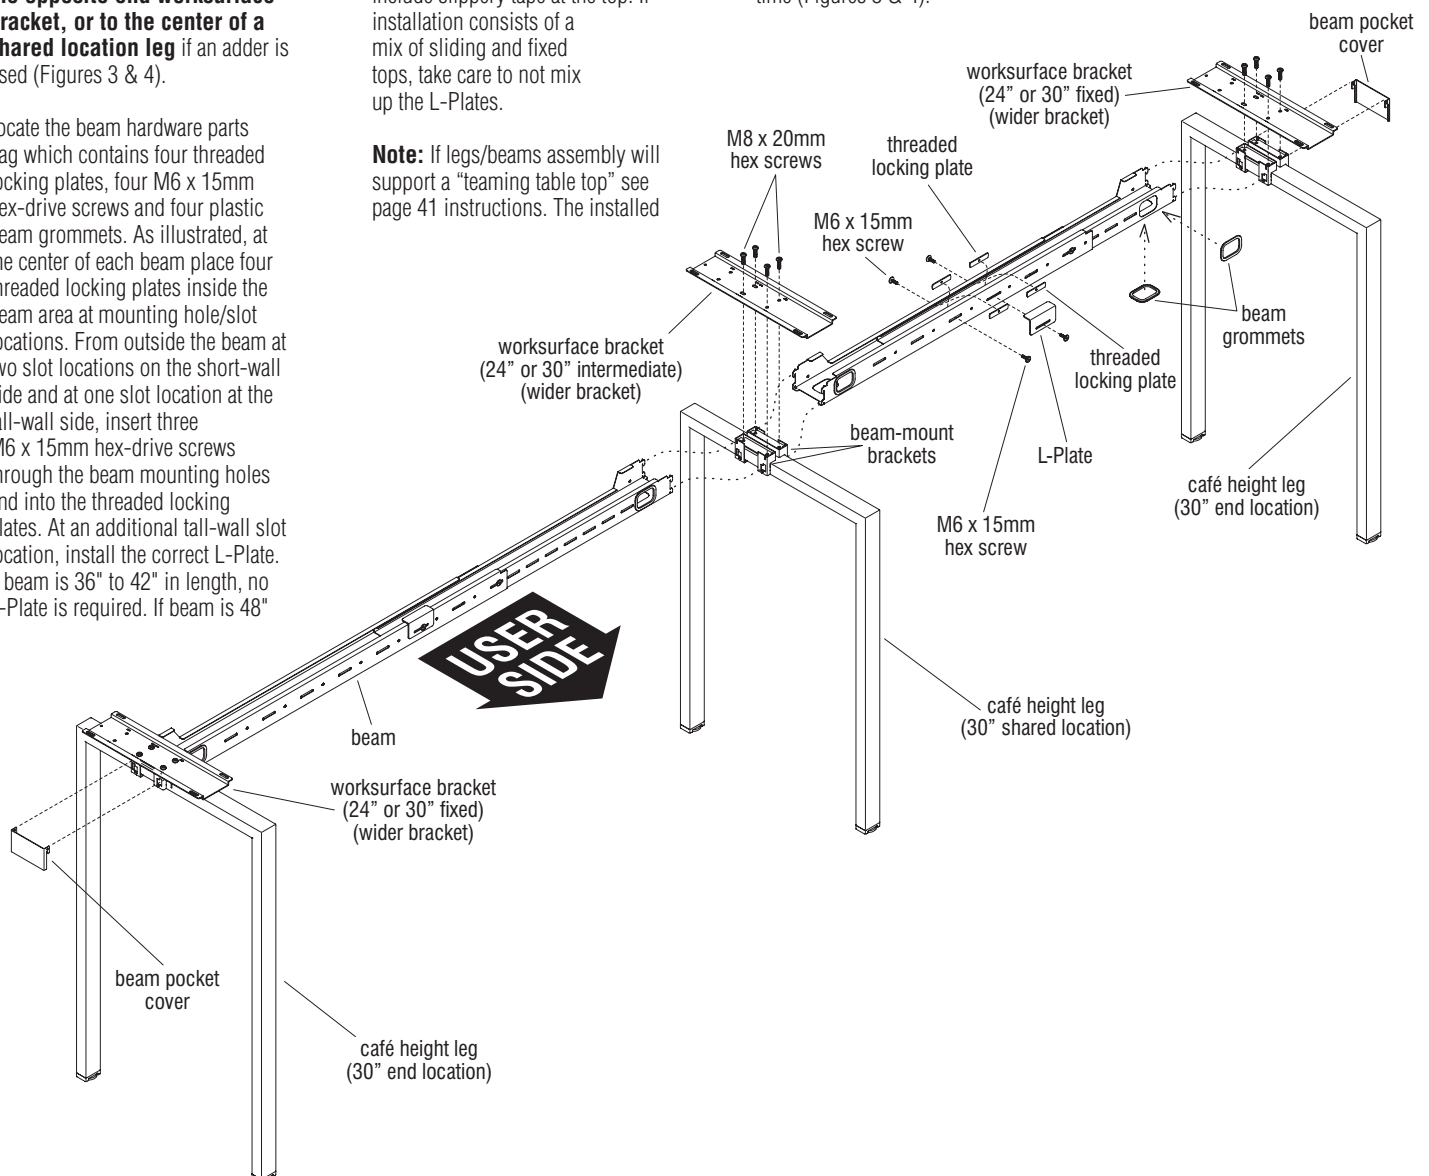

Figure 4 - Single-Sided Fixed Café Height Benching, Multiple Worksurface (Adder) Legs & Beams
Note: If installation requires shared location legs with additional beams for multiple worksurfaces (as most do), see Figure 4 (next page) and follow step 3 below. All beams must be installed to legs before attaching worksurface brackets.
3. Shared location café height legs are used in multiple top, "adder" runs of worksurfaces (Figure 4). Attach beams to shared leg locations per
the space-planning layout and as described in step 2 (Figure 4).